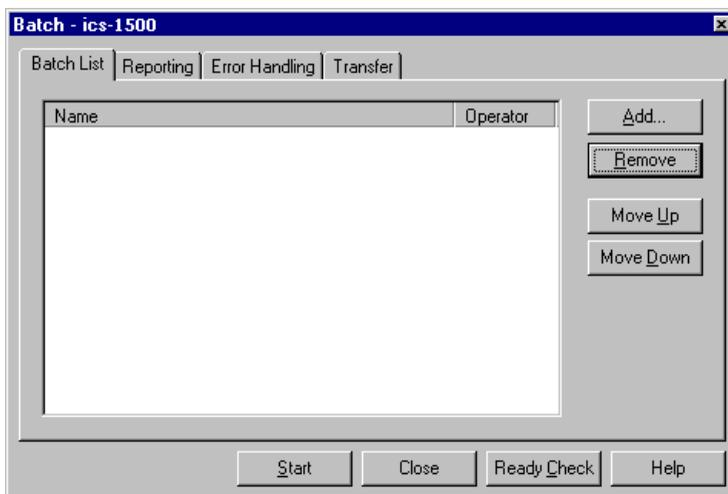

Figure 3-12. Batch Dialog Box
3. To start the sample processing, make sure the System Control panel is open (see Section 3.3) and is the active window. Then, select **Batch>Edit**. The Batch dialog box opens (see Figure 3-12).